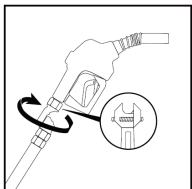

Figure 2
- Solution: Disconnect the hose from the nozzle, reconnect the hose and tighten (see Figure 2).